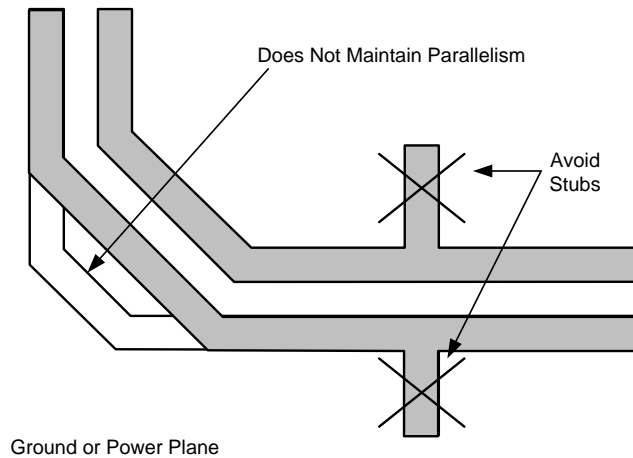

Figure 3. Differential Signal Pair - Stubs
- Stubs should be avoided on all signal traces, especially the differential signal pairs. See Figure 3.
- Within the pairs (for example, TD+ and TD-) the trace lengths should be run parallel to each other and matched in length. Matched lengths minimize delay differences, avoiding an increase in common mode noise and increased EMI. See Figure 3.